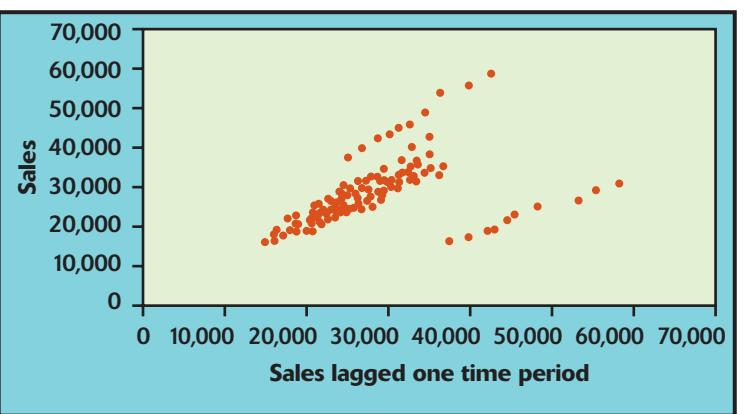

Figure 13.10 Lagged time series plot of U.S. retail sales of general merchandise stores, for Exercise 13.19.
13.19 Lagged time series plot. Similar to the lagged residual plot, a lagged time series plot is a scatterplot with y_t on the vertical axis and y_{t-1} on the horizontal axis. Figure 13.10 is a lagged time series plot of the monthly retail sales data introduced in Example 13.1.
- (a) Figure 13.10 consists of three distinct groups of points. One large group containing most of the points and two smaller groups consisting of ten points each. Given what we know about when the ups and downs occur with this time series, we can identify the two smaller groups of points. The group of ten points crossing the lower right corner are the points with January sales as the y -coordinate. The other group